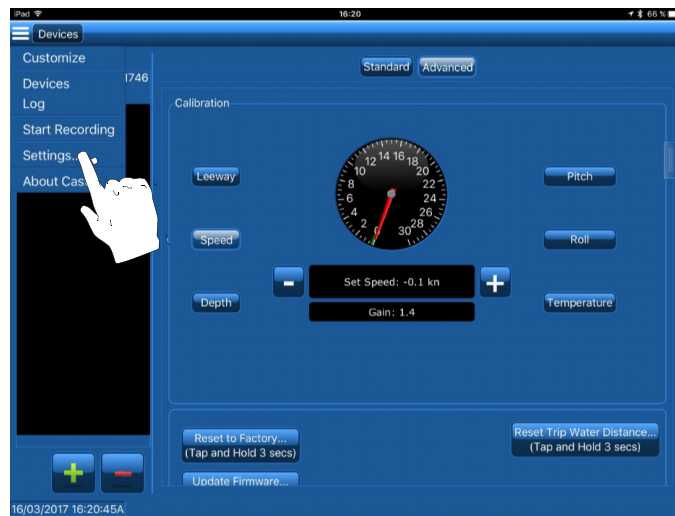

Figure 26. Selecting Settings from the drop-down menu
2. Touch the  menu button to see the control panel, drop-down menu (Figure 26).